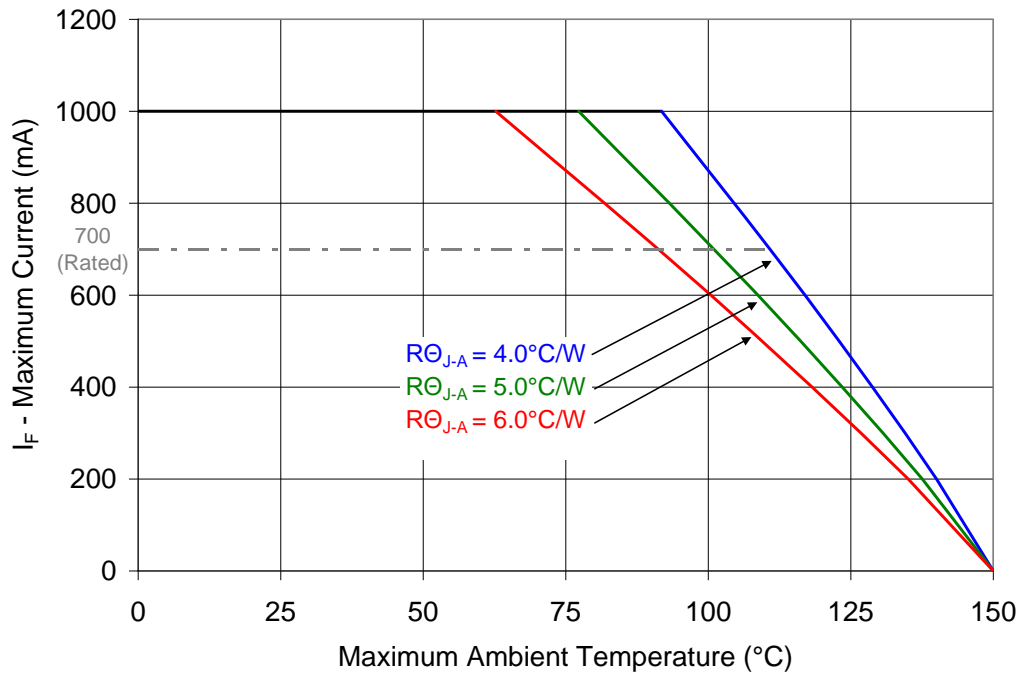

Figure 10: Maximum forward current vs. ambient temperature based on $T_{j(\text{MAX})} = 150^{\circ}\text{C}$.
- Maximum DC forward current is determined by the overall thermal resistance and ambient temperature. Follow the curves in Figure 10 for current derating.
Notes for Figure 10: